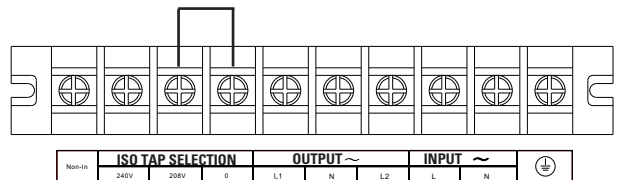

Fig. 11. Wiring for input voltage of 208 V.
- If the input voltage is 208 V, install the jumper between ISO TAP selection 0 and 208, as shown in Fig. 11: